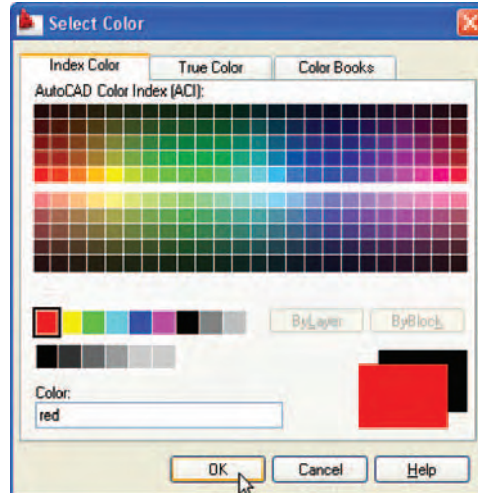

Fig. 4.18 The Select Color dialog
4. Click one of the squares under the **Color** column of the dialog. The **Select Color** dialog appears (Fig. 4.18). *Double-click* on one of the colours in the **Index Color** squares. The selected colour appears against the layer name in which the square was selected. Repeat until all 5 new layers have a colour.